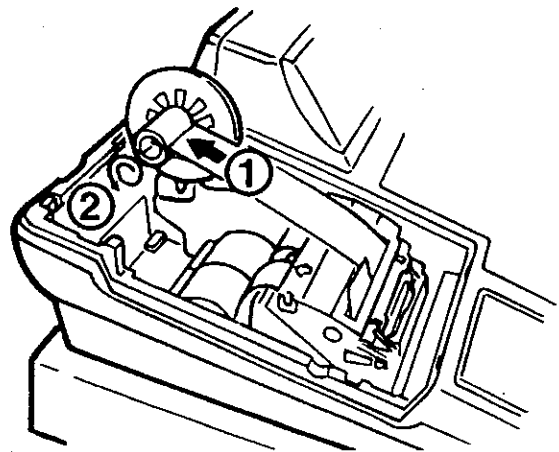

Fig.6
4. Insert the end into the slot in the take-up reel and wind two or three turns of paper around the reel (See Fig.6).